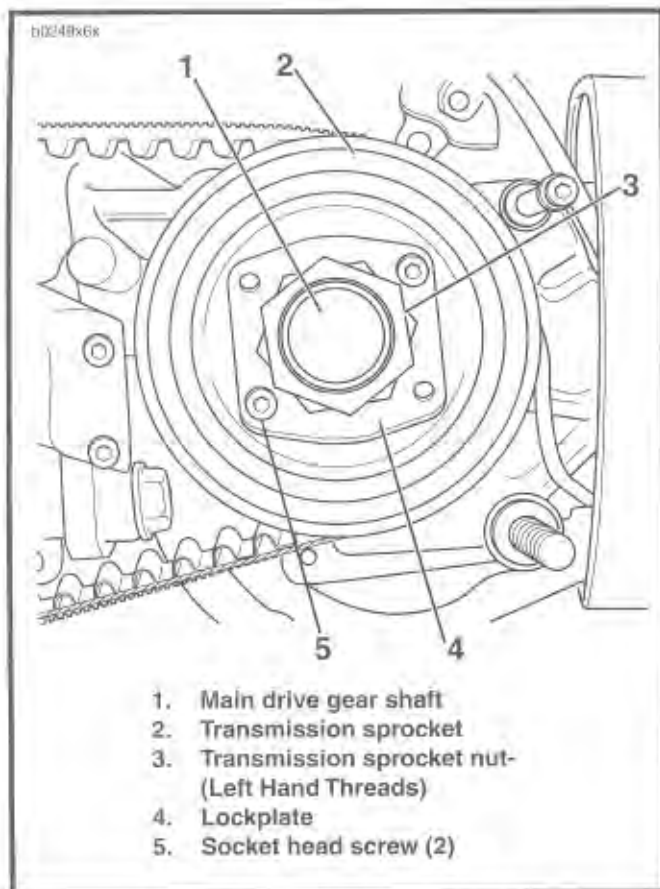

Figure 6-53. Transmission Sprocket
- See Figure 6-53. Install transmission sprocket (2) with secondary drive belt onto main drive gear shaft (1).
- Place transmission in neutral. Apply a few drops of LOCTITE THREADLOCKER 262 (red) to the **left-hand threads** of transmission sprocket nut (3). Position nut with washer-faced side facing transmission sprocket.
- See Figure 6-53. Install lockplate (4) over nut (3) so that two of lockplate's four drilled holes (diagonally opposite) align with sprocket's (2) two tapped holes.